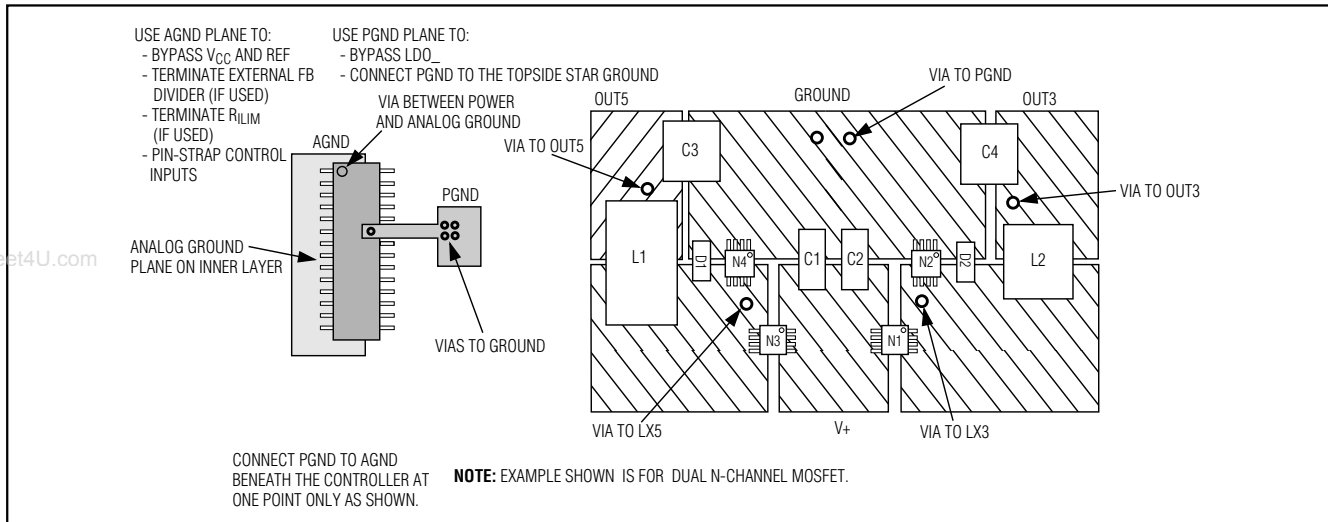

Figure 13. PC Board Layout Example
Careful PC board layout is critical to achieve minimal switching losses and clean, stable operation. This is especially true when multiple converters are on the same PC board where one circuit can affect the other. The switching power stages require particular attention (Figure 13). Refer to the MAX1999 Evaluation Kit data sheet for a specific layout example.
4) Make the DC-DC controller ground connections as follows: near the device, create a small analog ground plane. Connect the small analog ground plane to GND (Figure 13) and use the plane for the ground connection for the REF and V_{CC} bypass capacitors, FB dividers, and ILIM resistors (if any). Create another small ground island for PGND, and use the plane for the V+ bypass capacitor, placed very close to the device. Connect the AGND and PGND planes together at the GND pin of the device.